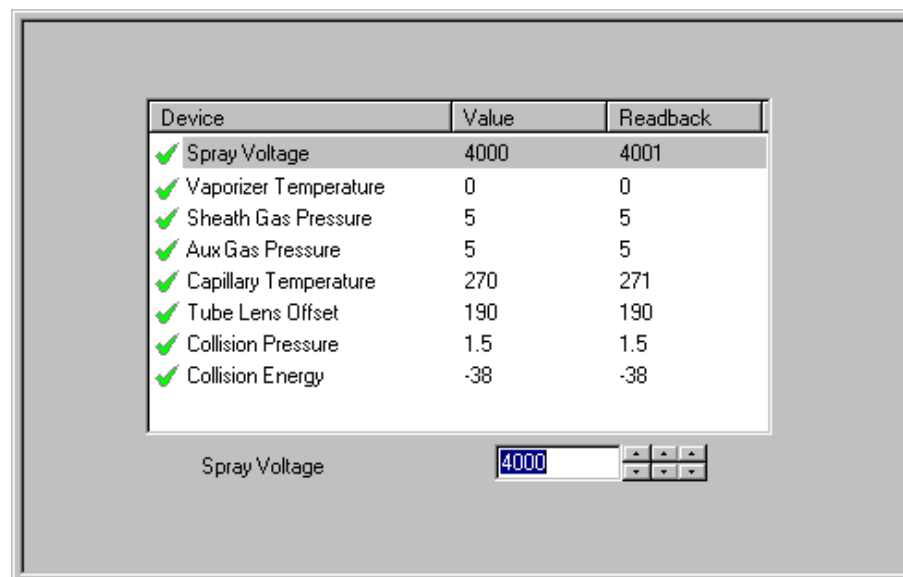

Figure 3-20. Optimize Compound Dependent Devices view.
- i. Click on the Optimize Compound Dependent Devices button to display the Optimize Compound Dependent Devices view in the top right corner of the workspace. See Figure 3-20.